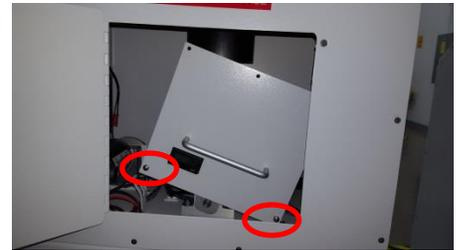

Figure 11 - UV Lamp removal screws
5. Remove both phillips-head screws (see Figure 11 on page 21) and pull module out by handle